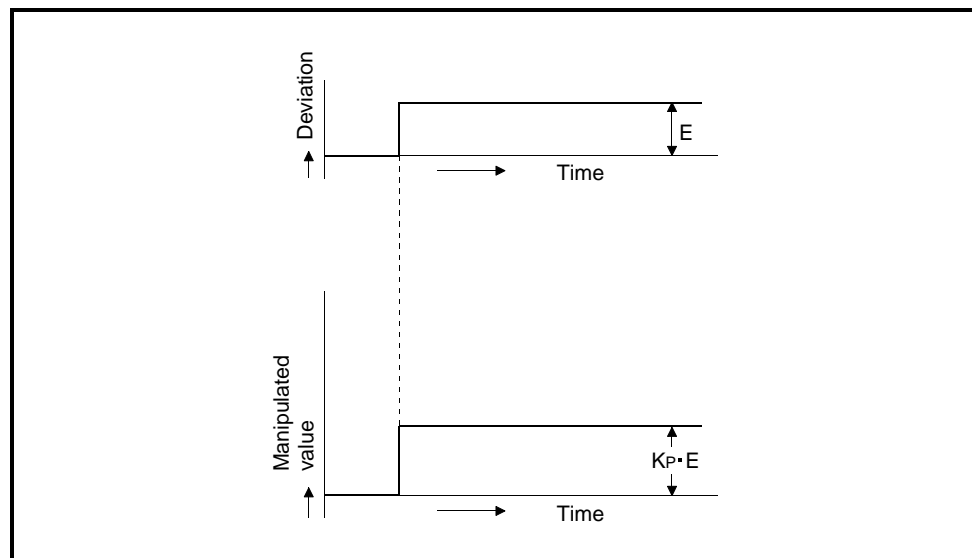

Fig. 1.8 Proportional action for step response
- (3) The proportional action for the step response when the error value is constant is shown in Figure 1.8.
- (4) The manipulation value changes between -5.0% and 105.0%. As the K_P increases, the manipulation value for the same error value becomes larger, and the corrective action becomes stronger.
- (5) The proportional action will generate an offset (remaining deflection).